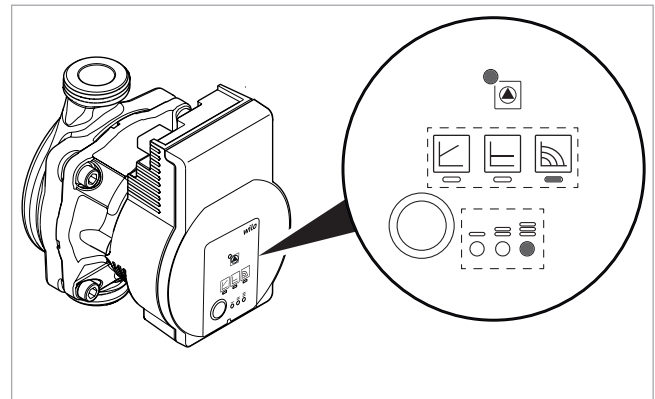

Fig. 117: Basic setting (constant speed, characteristic curve III)
** Press the 9th button to return to the basic setting (constant speed, characteristic curve III, see → Fig. 117).